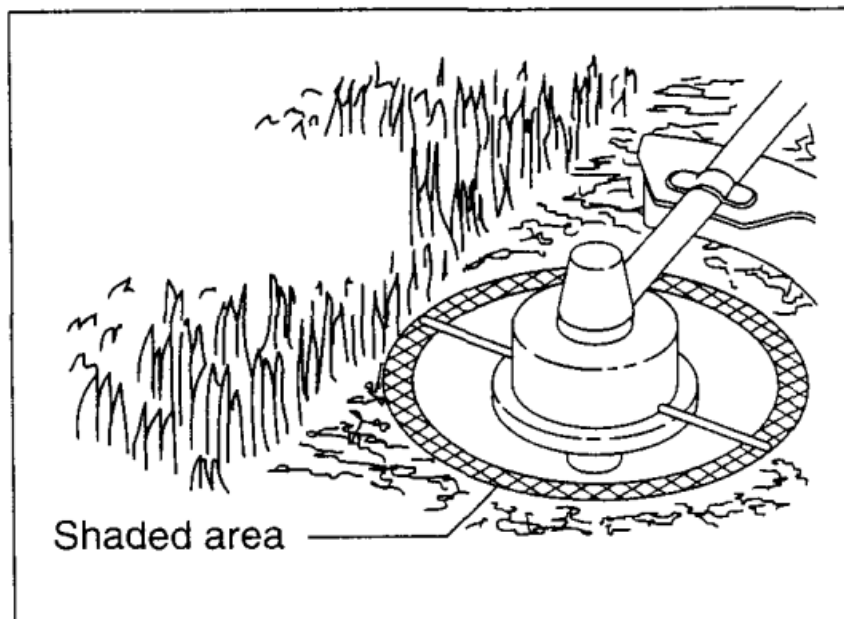

Fig. 20
1. Increase the cutter head speed to approx. 6,000 RPM. Low speed (under 4,000 RPM) causes inefficient cutting. Use the tip of the nylon cord (shaded area shown in Fig. 20) for more effective cutting.